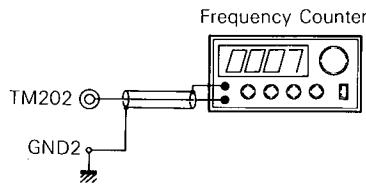

Fig. 13
- (1) Connect the frequency counter to TM202 (CLK) and GND2. (Fig. 13)
- (2) Remove wire connector CN203, turn the power switch on.
- (3) Rotate the L201 core and adjust so that the frequency counter shows a value of $4.3218\text{MHz} \pm 0.02\text{MHz}$.
- (4) After adjusting, turn the power off and connect the CN203 wire connector.